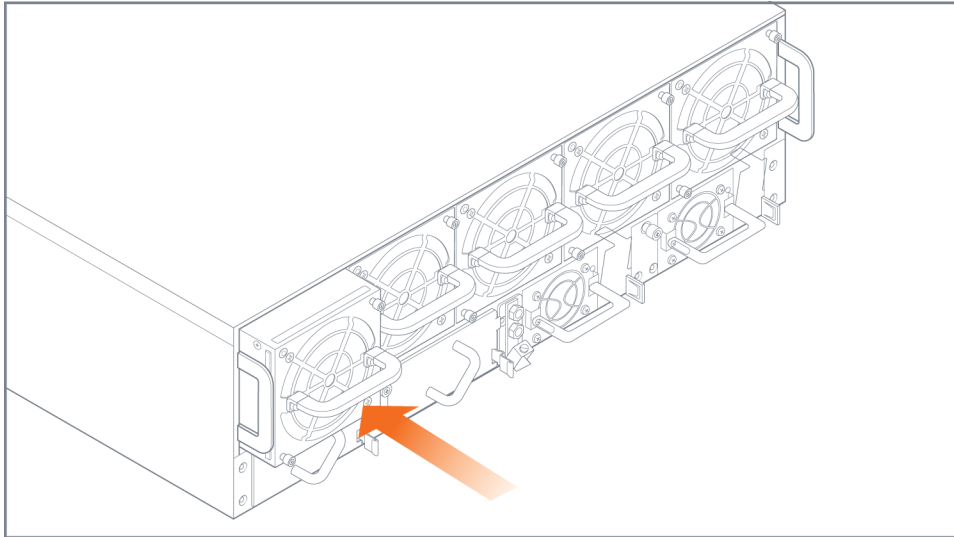

Figure 9 Fan Module Insertion
1. Place the working fan module into the empty fan module slot and slide it in until it is flush with the chassis rear and will not slide in any further. Refer to Figure 9 Fan Module Insertion.